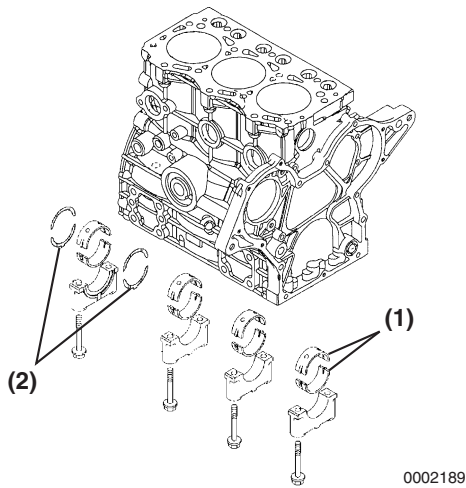

Figure 6-90
2. Install new bearing inserts (**Figure 6-90, (1)**) and thrust bearing (**Figure 6-90, (2)**) in the cylinder block and main bearing caps. Be sure the oil holes in the upper bearing shells align with the oil ports in the cylinder block. Apply a liberal coat of clean engine oil to the bearings and crankshaft journals.